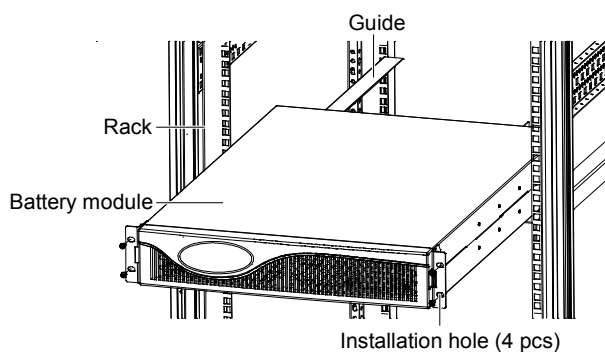

Figure 2-5 Installing battery module
2. Place the battery module onto guide rail in the rack, and push it completely into the rack along the guide rail (it is prohibited to place the battery module through the brackets). Take out four M6 * 16 screws from accessories, and fix the battery module onto the rack using the screws through the installation holes on the ratchet, as shown in Figure 2-5.